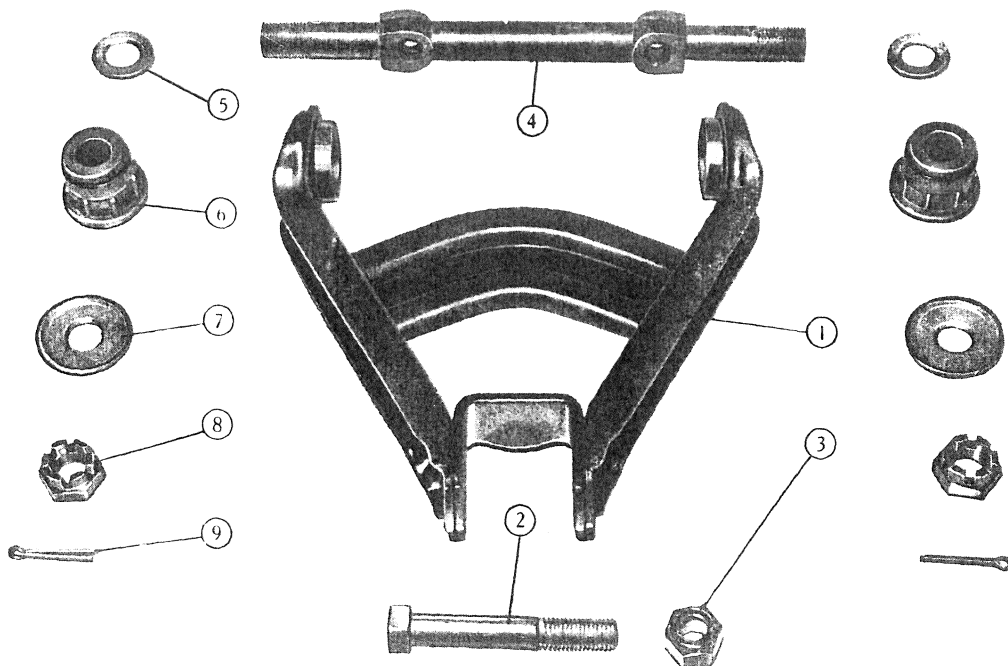

Fig. 267 - Swinging arm components.
— Insert pin (4, fig. 267) provided with two washers (5) in swinging arm bores.